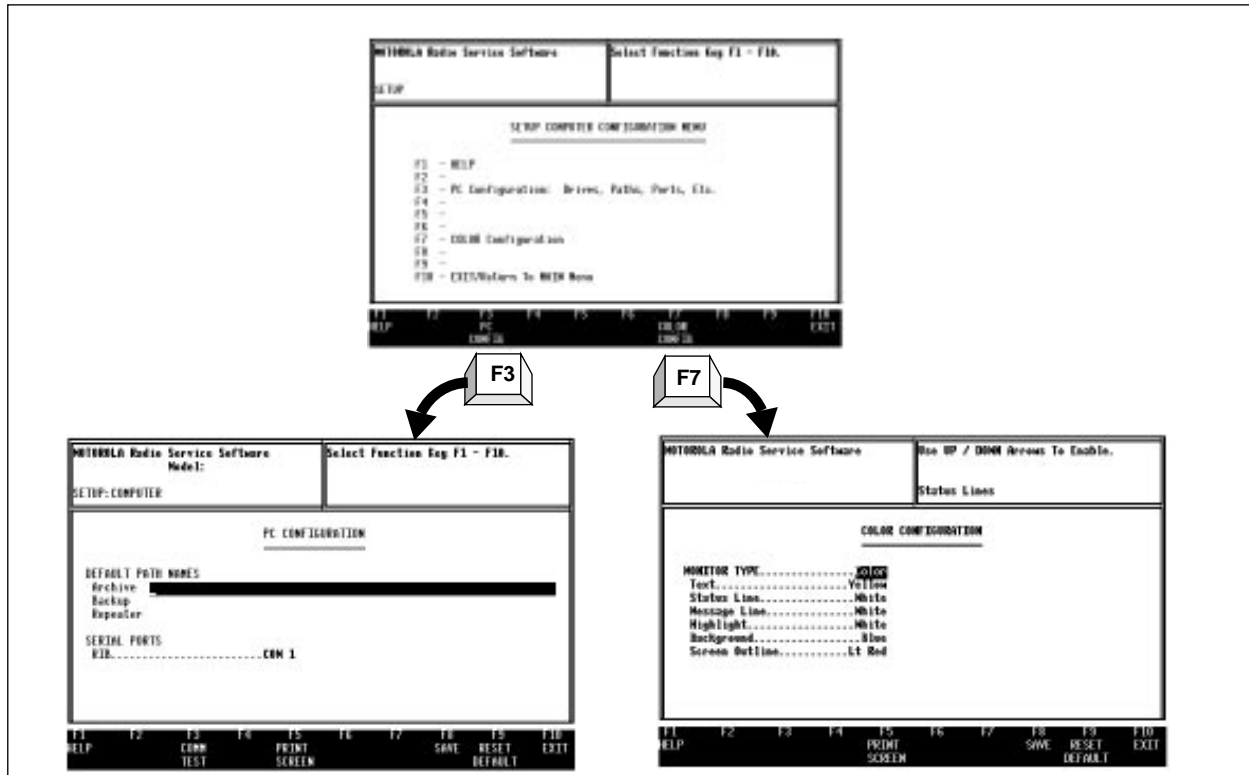

Figure 2-13. Setup Computer Configuration Menu Options
- ❑ Eliminate the SETUP COMPUTER CONFIGURATION MENU as shown in Figure 2-13 on page 2-35 from appearing every single time you start RSS from the diskettes.